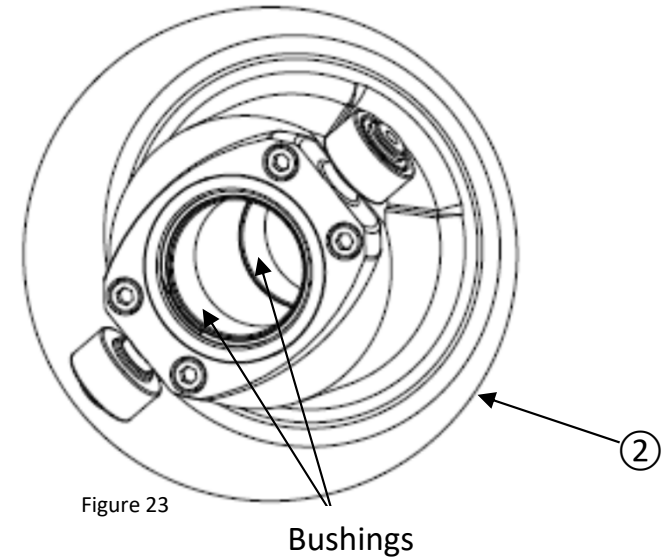

Figure 23
- Check for wear marks on the forward ramps ⑨ and helix ⑩.
- Check for wear marks on the spring ⑥.
- Check the wear of the sliding sheave ② bushings (visual inspection only, figure 23). If there is excessive wear, you must replace the whole sheave assembly ②.
The bushings cannot be removed from the sliding sheave ② (figure 23).